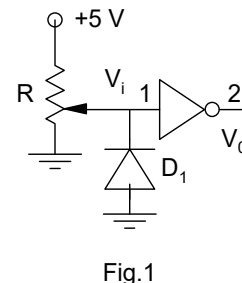
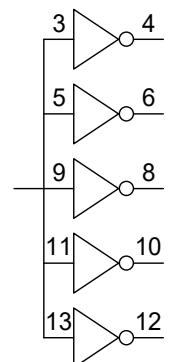
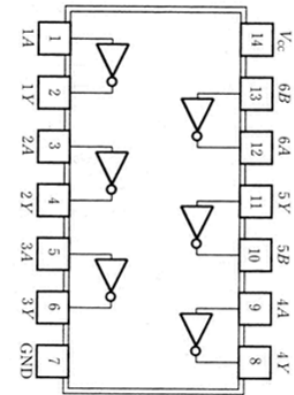

Fig.1
Fig.2
Fig. 3
- (i) Wire the inverter circuit of Fig.1. Note that this is one of the gates of the 7404 Hex Inverter IC, as shown in Fig. 3.
- (iii) Now connect the remaining 5 gates of the IC as load to the inverter under test by connecting the inverter output of Fig.1 to the inputs as indicated in Fig.2. Tabulate the values of V_o for V_i of 0.4 V and 2.5 V. Note the change in the values of V_o with load.
Remove the potentiometer R, and the +5 V DC power supply from Fig.1, and connect a **triangular waveform** ($f = 1 \text{ kHz}$) going from 0 to 5 V to the input of the inverter (pin 1). Keep the load connected to the inverter output (pin 2) as in part A.(iii). Use the XY mode of the CRO to display the transfer characteristic (i.e., pin 2 versus pin 1 voltages, or, V_o vs. V_i) and sketch it.